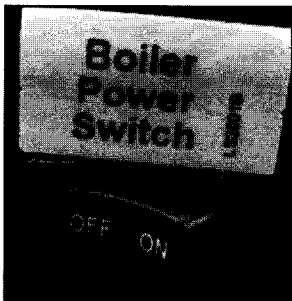

Figure 1 - Boiler Power Switch
1. Turn off power to the boiler. See Figure 1.